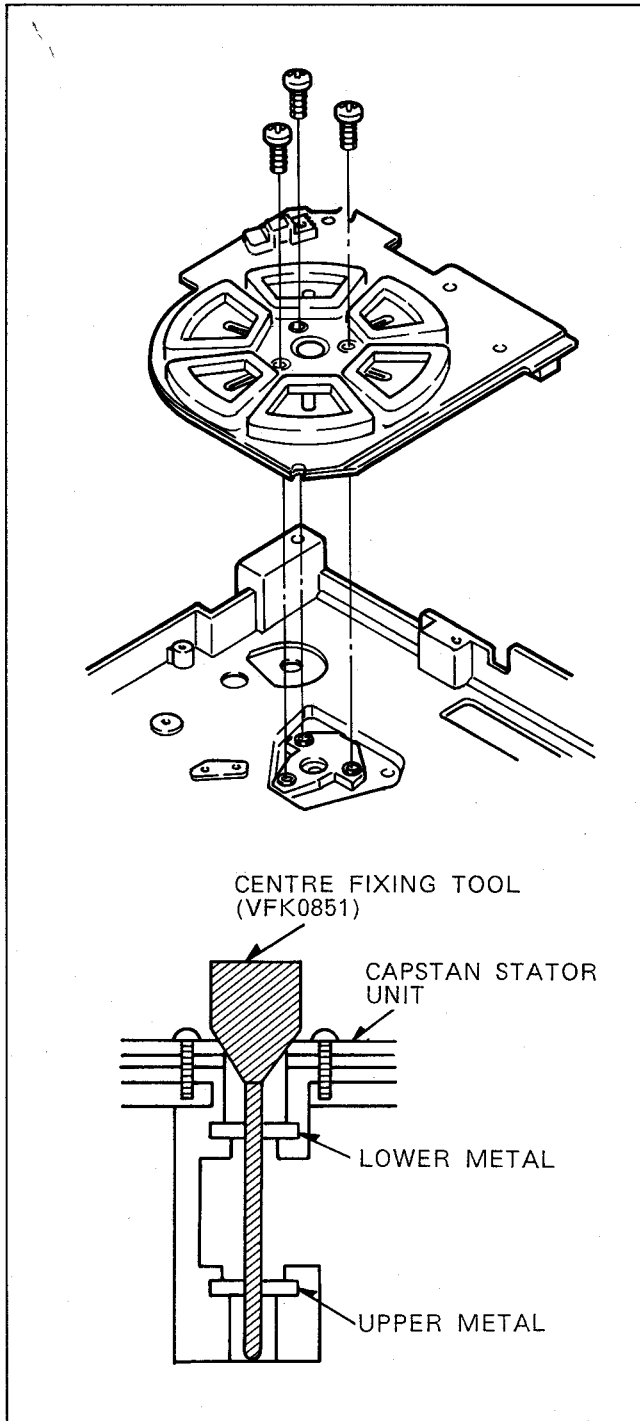

Fig. T2
- 3) Insert the CENTRE FIXING TOOL (VFK0851) as shown in Fig.T2.